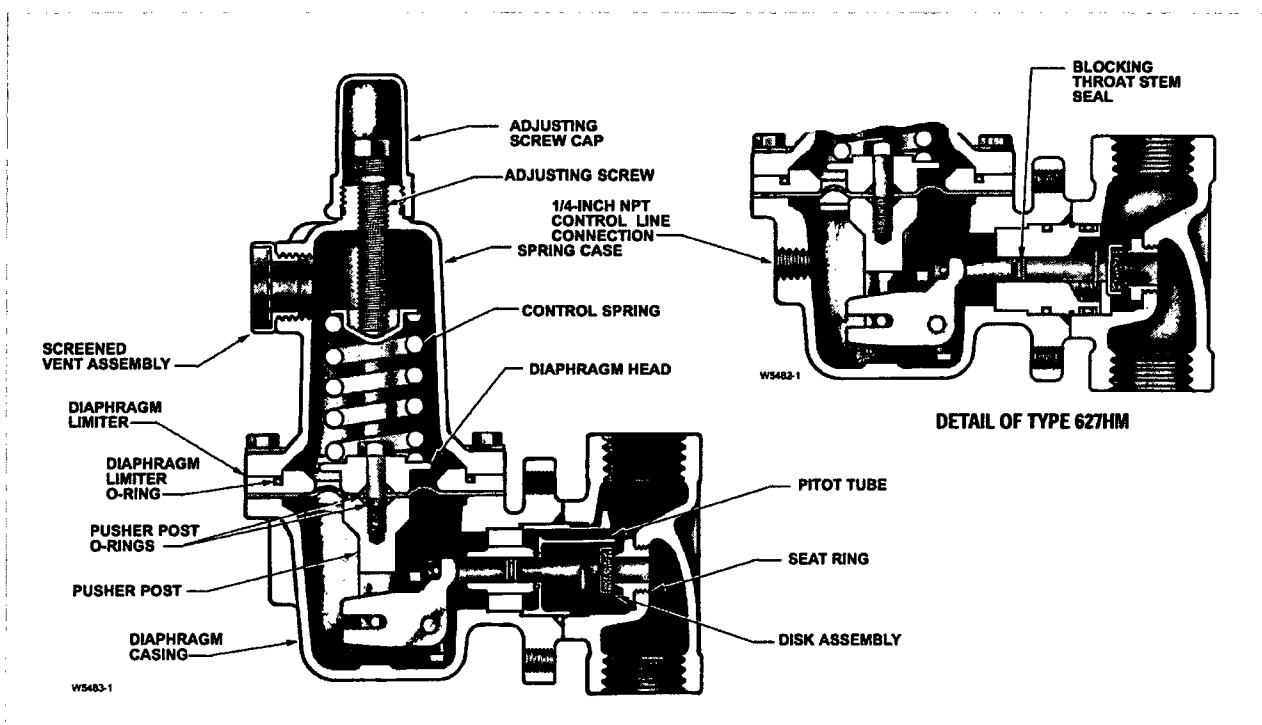

Figure 7. Type 627H and 627HM Construction Details
**Type 627H:** Type 627 with a diaphragm limiter to deliver a higher outlet pressure (figure 7)
**Type 627HM:** Type 627H with a stem seal between the body outlet pressure and diaphragm case. Pressure is measured under the diaphragm through two 1/4-inch NPT downstream control line connections (figure 7)